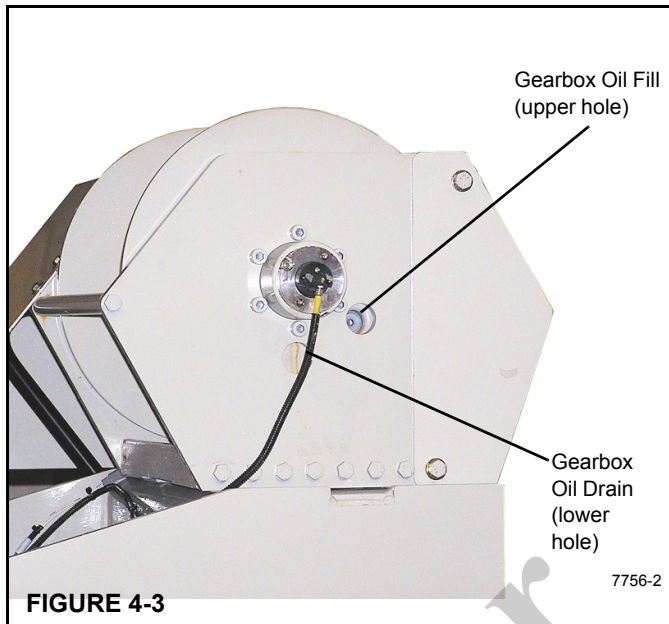

FIGURE 4-3
- Rotate the drum until the oil fill/level plug (Figure 4-3) is visible in the inspection hole.
- To drain and add new oil, remove the vent plug (Figure 4-3) and then screw a 1" pipe into the drain plug hole to allow the oil to drain. Remove the drain plug with a hex head socket and drain hydraulic oil. Remove the 1" drain pipe and install drain plug.
- To fill with oil, rotate the drum so the oil fill/level port (Figure 4-3) is visible through the upper hole. Install a 1" pipe with elbow into the fill hole to assist in adding oil. Remove oil fill/level plug with a hex socket and fill gear box with gear lube oil. See "Lubrication" on page 3.